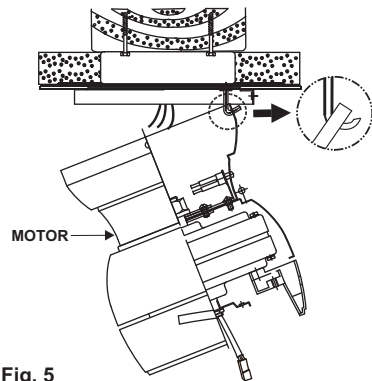

Fig. 5
Step 2. Lift fan into position by hanging the motor assembly onto the hook from the ceiling mounting bracket allowing it to hang freely (Fig. 5).